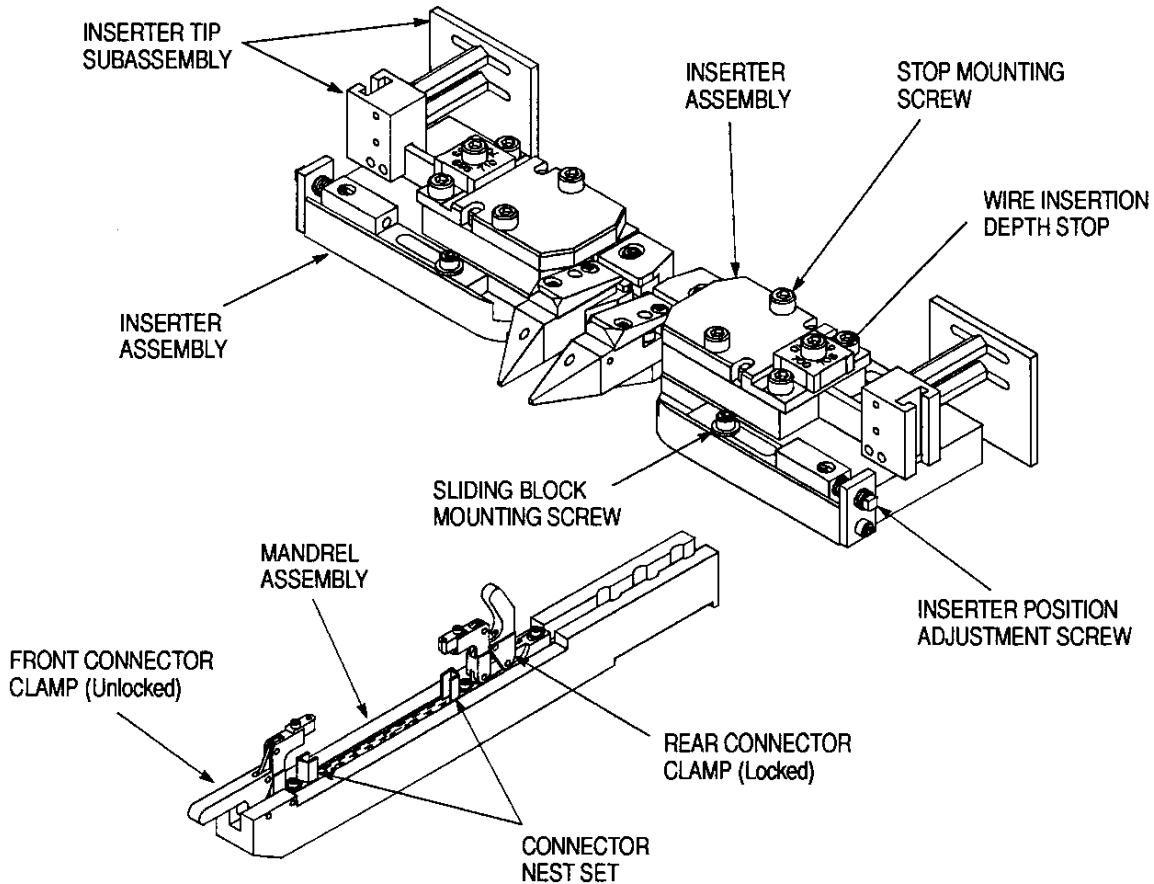

Figure 1
2. DESCRIPTION (Figure 1)
4. Loosen the sliding block mounting screw. Refer to Figure 1.
5. While viewing the inserter guiding surfaces, use a 5/32-in. open end or box wrench and turn the inserter position adjustment screw to move the assembly. Refer to Figure 1. Turn the screw CLOCKWISE to move the assembly AWAY from the connector, and COUNTERCLOCKWISE to move the assembly TOWARD the connector.
The length of travel of the inserter air cylinder ram may be adjusted. Normally, the inserters will not require this adjustment unless the insulation diameter is changed. To adjust the depth, refer to Figure 1 and proceed as follows: